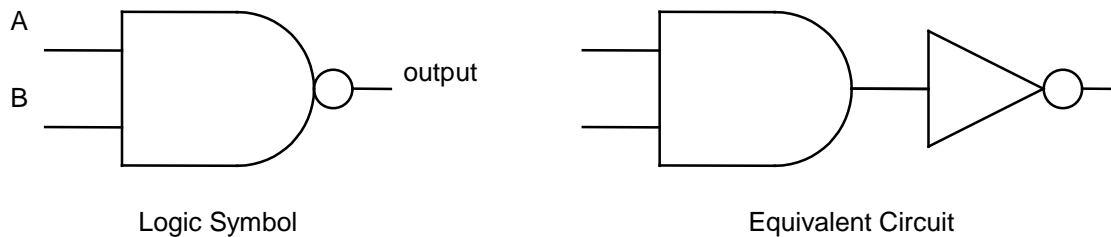

Figure 2: NAND
5.1.1 Figure 2 shows the logic symbol, and an equivalent circuit for a two-input NAND gate.